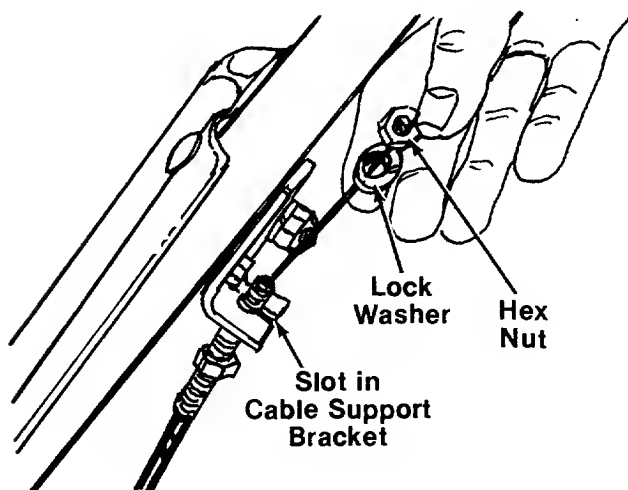

FIGURE 6.
7. Remove one hex nut and lock washer from end of clutch cable. Slip the wire up through slot on cable support bracket. Start hex nut and lock washer back on end of clutch cable. See figure 6.